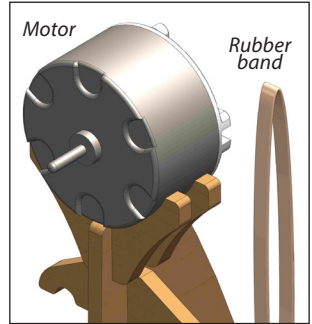

Figure 7
10. Place the motor on top of the stand with the motor post facing toward the straight edge of Part 1 (Figure 7). Loop one end of the rubber band over one side of Part 4, pull it over the motor, and hook the other end on the other side (Figure 8).